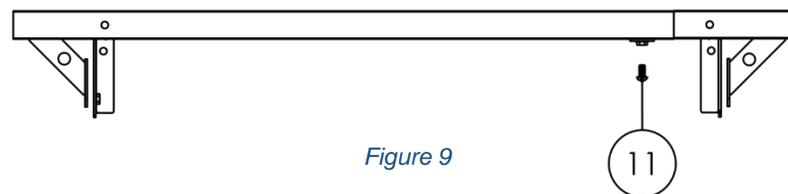

Figure 9
6. **Secure the Crossbars.** Once within the Legs (Item No. 5), lock the Crossbars' position by threading a 3/4" Button Head Screw (Item No. 11) into the position shown in Figure 9. This screw adds to the stability of the Crossbars.